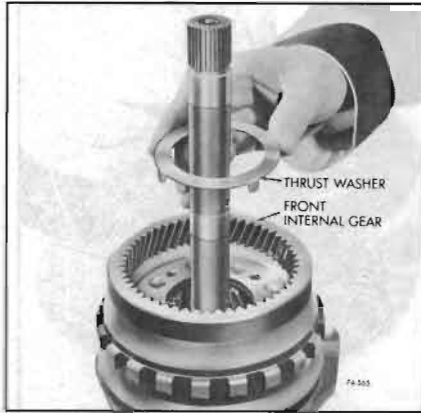

Figure 74-565
7. Remove reaction carrier to output carrier phenolic thrust washer. See Figure 74-565.